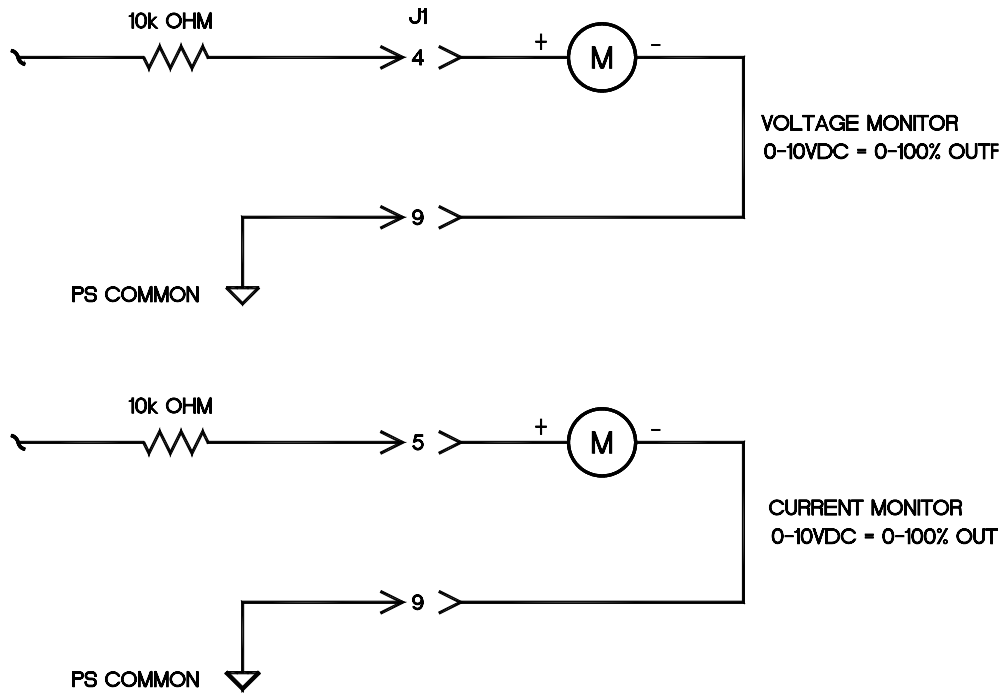

Figure 3.3 SMS Remote Monitoring
Remote Monitoring: Test points are made available for monitoring the voltage and current output. The test points are always positive regardless of the output polarity, where zero (0) to 10 (10) volts equals 0-100% of the output. See Figure 3.3 and 3.6 for test point wiring.